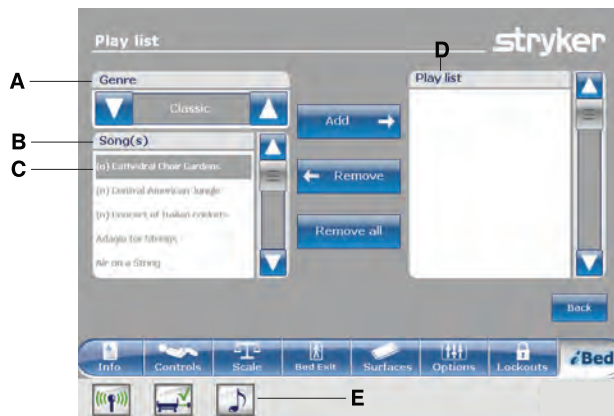

Figure 116: Play list
Tap the up and down arrows to select a genre (A) (Figure 116 on page 100).
Tap the up and down arrows to scroll through the available songs in the **Song(s)** area (B) (Figure 116 on page 100).
Note: The song that is currently selected is highlighted in gray (C) (Figure 116 on page 100).
Tap **Add** to add a song from the **Song(s)** area (B) to the **Play list** area (D) (Figure 116 on page 100).
Tap **Remove** to remove a song from the **Play list** area (D) to the **Song(s)** area (B) (Figure 116 on page 100).
Tap **Remove all** to remove all songs from the **Play list** area (D) to the **Song(s)** area (B) (Figure 116 on page 100).
Note: A music note icon appears at the bottom of the touch screen when music is playing (E) (Figure 116 on page 100).
To return to the **Sound therapy** screen, tap **Back** (Figure 116 on page 100).